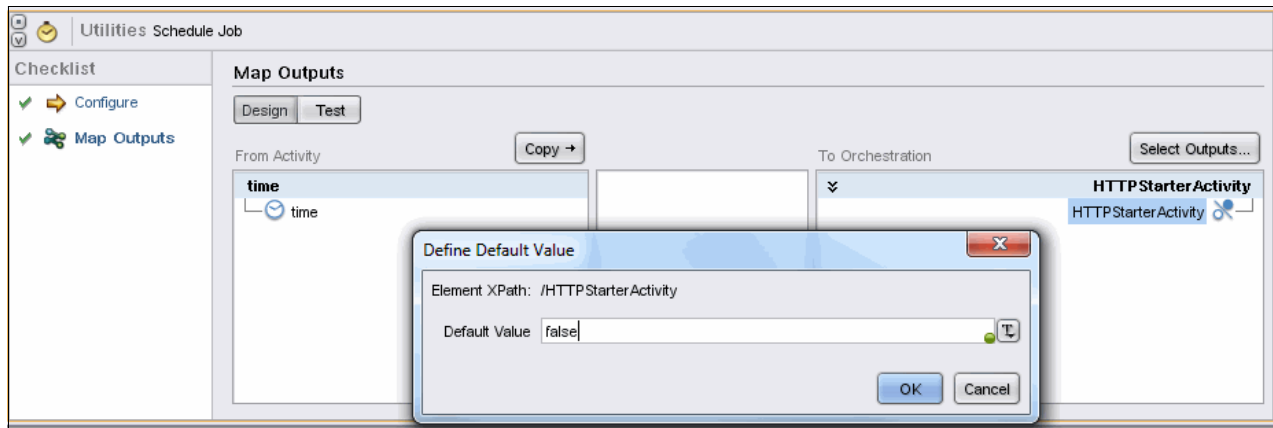

Figure 11-28 Setting a variable value in Map Outputs for Schedule Job activity
- c. Right-click the `HTTPStarterActivity` in the To Orchestration area, and select **Define Default Value**. Set a default value of `False` for this variable, and click **OK**, as shown in Figure 11-28.